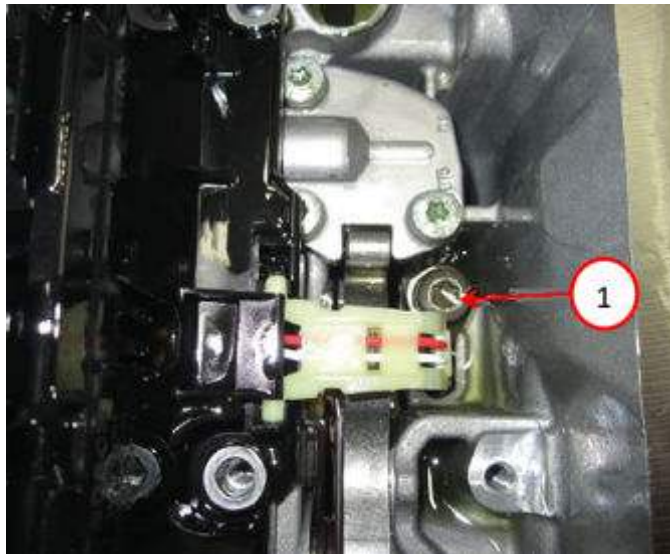

Fig. 9
17. Remove the Output Speed Sensor bolt and gently lift the Output Speed Sensor out from the case Fig. 9.